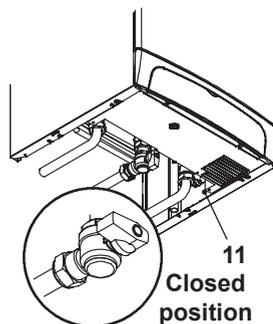

Fig. 2.9
- Shut off the gas supply cock 13 and the valves for the water circuits fitted under the boiler (Fig. 2.9).
Shut off the valves positioned under the boiler (Fig. 2.9 on page 12) and call an Authorised Service Centre Engineer.